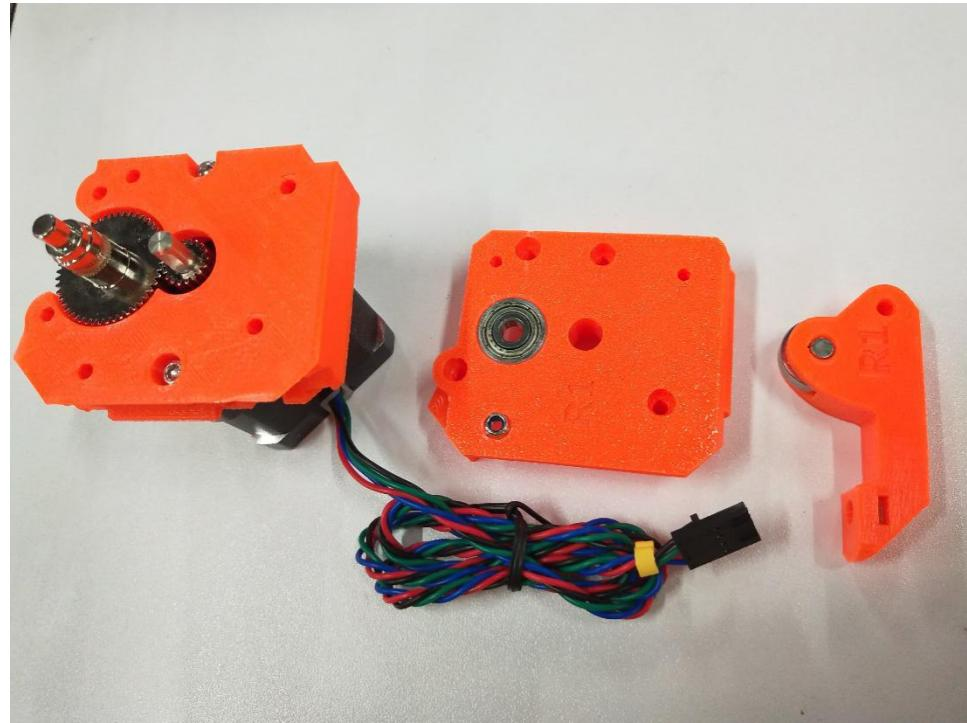

Figure 2.3.4
**Step 2-3-4:** As shown in Figure 2.3.4, prepare the installed MINI-extruder-front and MINI-extruder-idler and prepare for the next assembly.